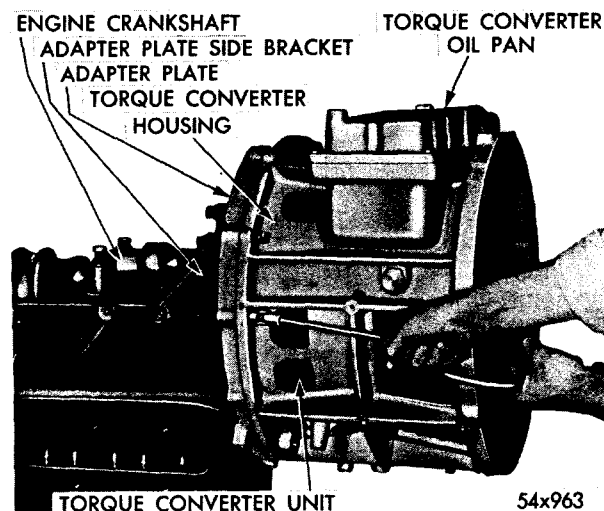

Fig. 59 — Installing or Removing Converter Housing on Adapter Plate
42. INSTALLATION OF TORQUE CONVERTER HOUSING (On Engine) (Fig. 59)
Using a suitable overhead hoist, carefully line-up the Converter Housing with the guide pins in the adapter plate attached to the engine. The correct value of shims must be in the proper location according to the runout as explained earlier, and remove the hoist and the bracket when all the screws are tightened securely. (Refer to Fig. 59.)